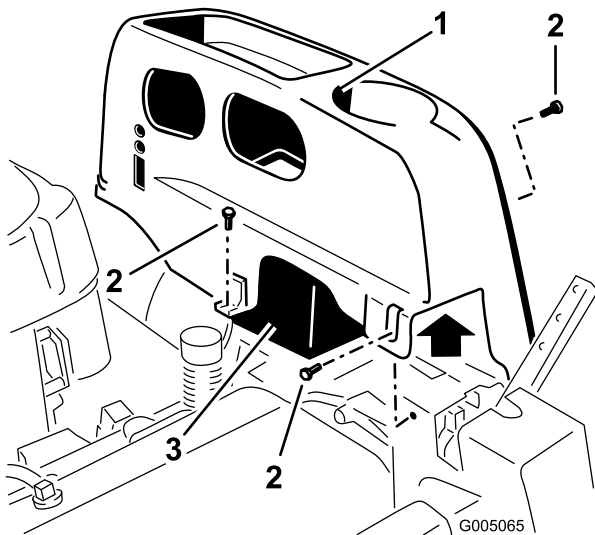

Figure 25
2. Remove the TORX® head fasteners (T25) securing the left cover to the frame as shown in Figure 25.